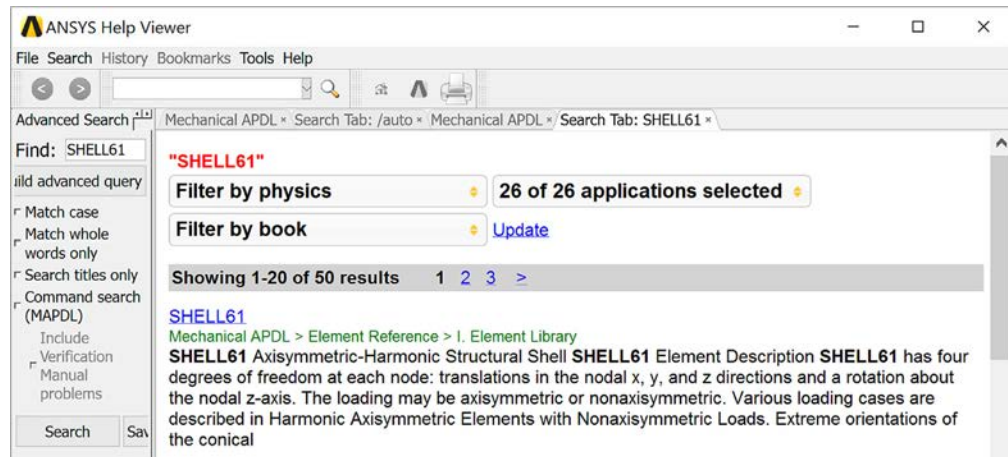

Figure 9-1-6 ANSYS Help Viewer Search for SHELL61.
- Click on the link that says: SHELL61 Mechanical APDL > Element Reference > Element Library (Figure 9-1-6)